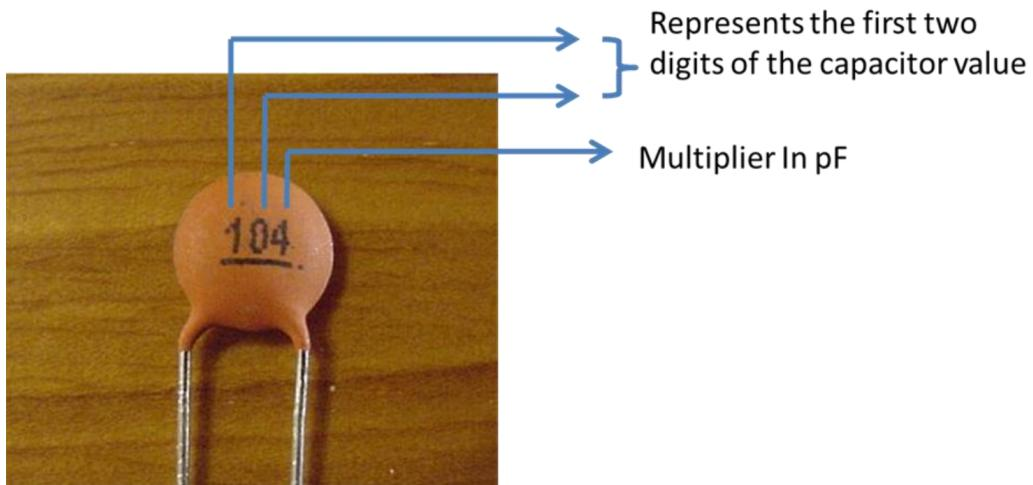

Figure 1.6: Ceramic capacitor
- Step 1: In the Fig. 1.6, the first two digits from the left indicates the first two digits of the capacitor value. Here, in this case the first two digits are 1 and 0. Therefore, the first two digits of the capacitor value is 10.